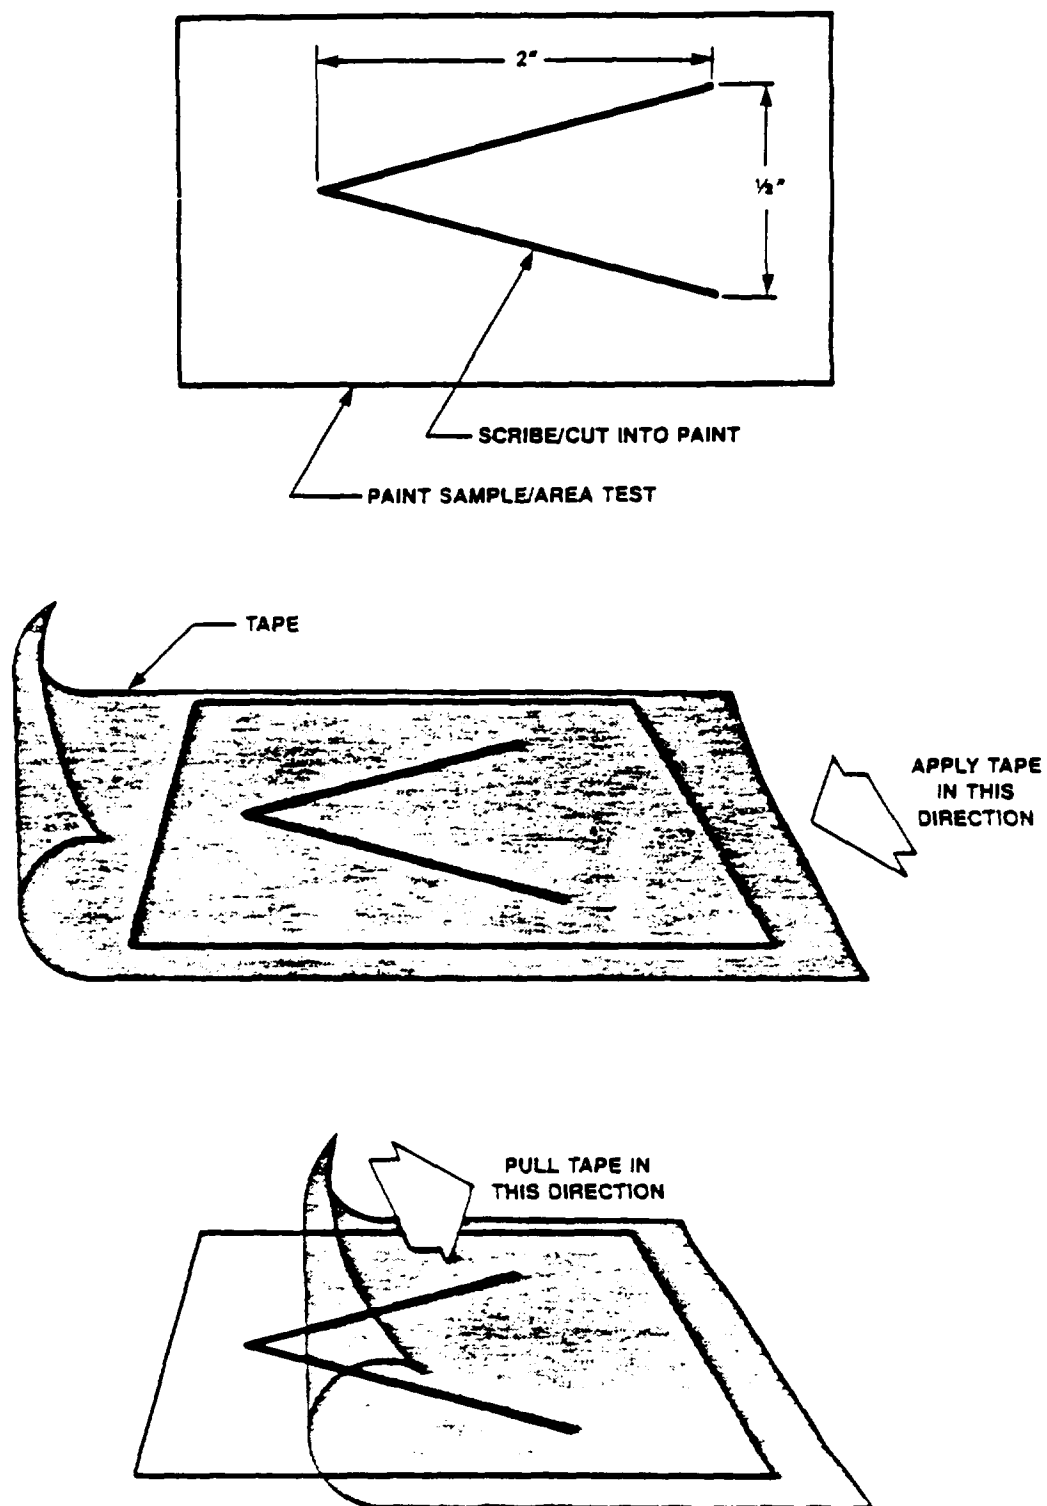

Figure 3-1. Tape Test.
(See figure 3-1.) Test paint adhesion on coated surfaces. Do not use test panels instead of actual production units. Test the surface after the paint finish has cured on an out of the way place acceptable to quality assurance representatives as follows:
a. Make a V-shaped scratch through the paint finish with a sharp metal blade. Make the scratch approximately two (2) inches long and one half (1/2) inch between edges at the widest point.
b. Press a piece of pressure sensitive tape (3M code no. 250 or equivalent) firmly over the V, in the direction indicated on figure 3-1. Press out air pockets.
c. Wait at least ten seconds, then quickly pull the tape away, in the direction indicated in figure 3-1.
(1) If no paint comes off of the taped area, the coating is acceptable. (Removal of overspray (para 4-13a) is not a test failure.)
(2) If the topcoat, primer or pretreatment comes off with the tape, then the coating has failed the test and must be removed and another coating applied and tested.
(3) After test is passed, repair the scratched area by feathering-in with appropriate pretreatment, primer and topcoat.